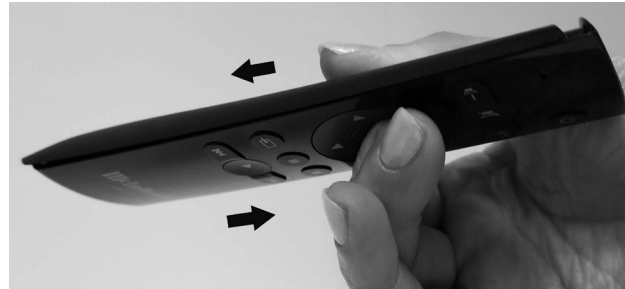

Figure 16– Sliding open the remote
- Pinch the remote with your index finger resting on the Trim/Select button and your thumb on the backside (facing you) opposite your index finger's position. Your thumb and remote should both be pointing away from you (see Figure 16).